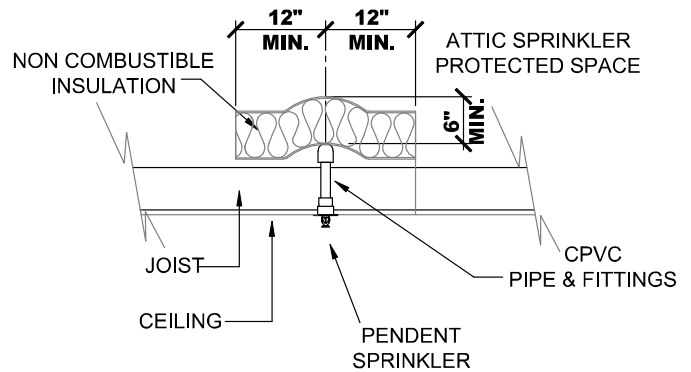

FIGURE 28A
- There must be 6 in. (152.4 mm) of non-combustible insulation covering the horizontal or vertical pipe extending 12 in. (304.8 mm) on each side away from the centerline of the pipe. Refer to FIGURE 28A.